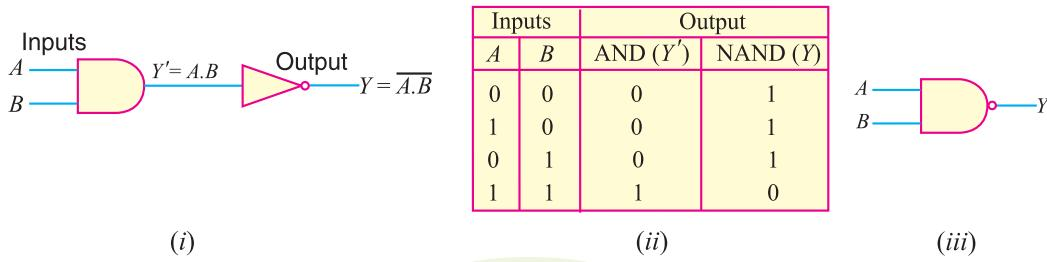

Fig. 26.11
**(i) NAND gate.** It is a combination of AND gate and NOT gate. In other words, output of AND gate is connected to the input of a NOT gate as shown in Fig. 26.11 (i). Clearly, the output of a NAND gate is opposite to the AND gate. This is illustrated in the truth table for the NAND gate. Note that truth table for NAND gate is developed by *inverting the outputs* of the AND gate.
first the inputs must be ANDed and then the inversion is performed. *Note that output from a NAND gate is always 1 except when all of the inputs are 1.* Fig. 26.11 (iii) shows the logic symbols for a NAND gate. The little bubble (small circle) on the right end of the symbol means to invert the AND.